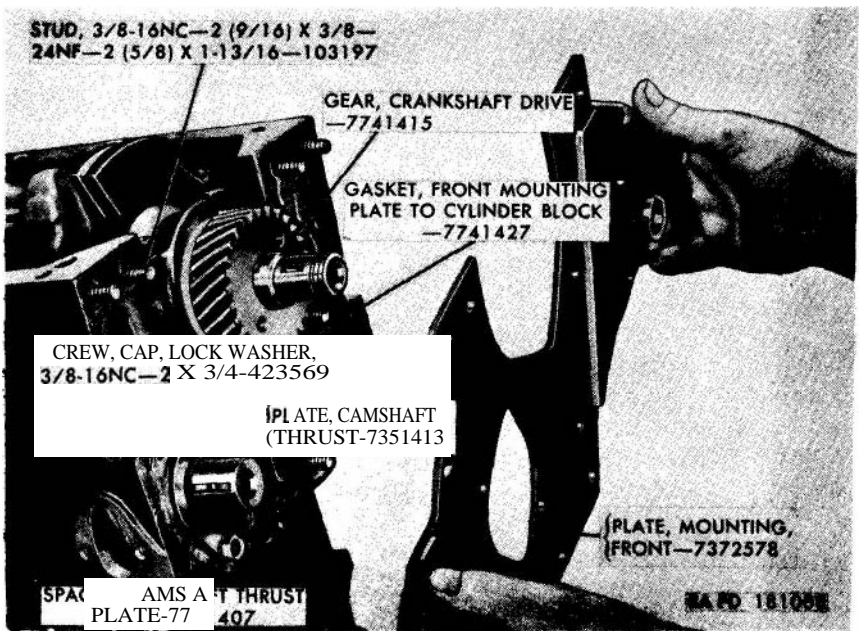

Figure 77. Installing front mounting plate.
a. Coat the threads of the six $\frac{3}{8}$ -16NC-2 ($\frac{5}{16}$) x $\frac{3}{8}$ -24NF-2 ($\frac{5}{8}$) x $1\frac{1}{16}$ studs (fig. 77), used to secure the mounting plate and timing gear cover to the front end of the cylinder block, with plastic type gasket cement. Install the studs in the front end of the cylinder block.